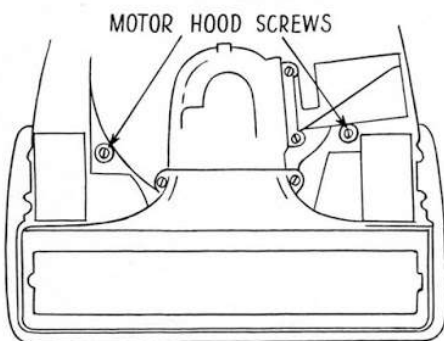

FIG. 135—Bottom view of Model 60, showing the motor hood screws
1. To remove **motor hood**, loosen (do not remove) the two screws on the underside of the main casting near front wheels. Figure 135.